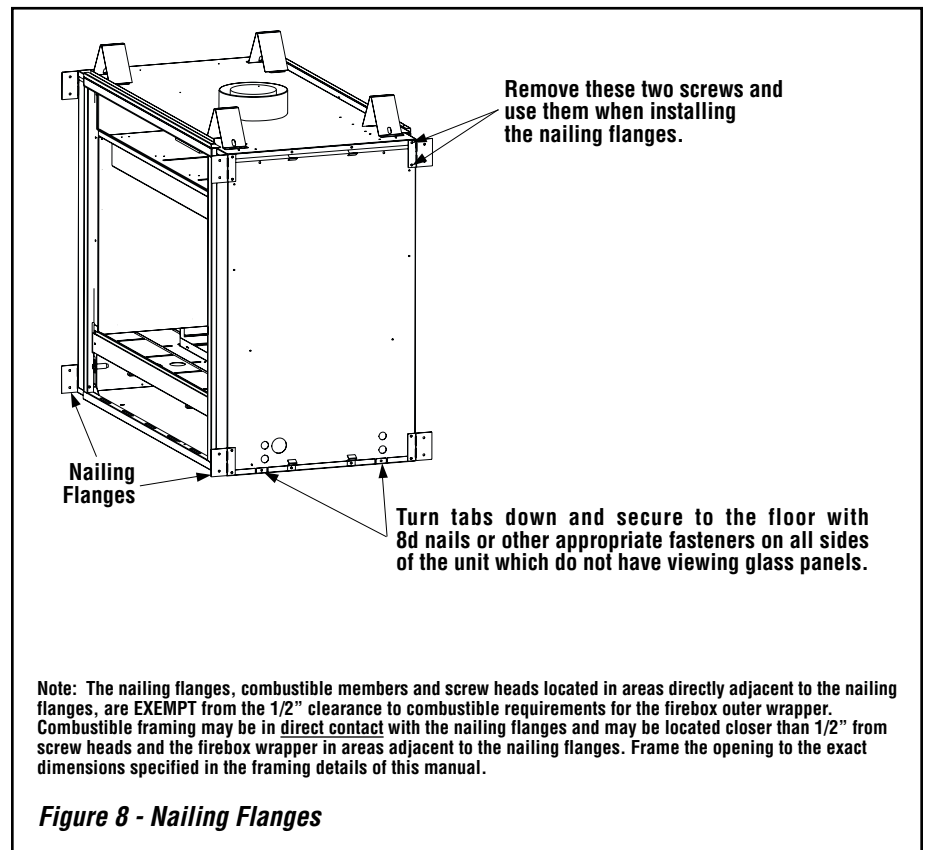

Figure 8 - Nailing Flanges
**NOTE: See Page 11, Step 1 and Figure 8 for clearance requirements to the nailing flange located at each side of the unit and any screw heads adjacent to it.
The fireplace should be secured to the framing at the side(s) and/or rear of the unit using the factory-provided nailing flanges. Install the 8 nailing flanges as shown in **Figure 8** using the existing screws.
Secure the fireplace to the floor as shown in **Figure 8**.